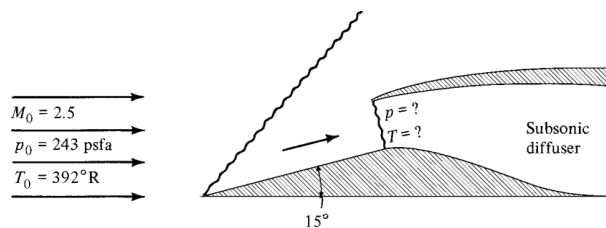

Figure P7.13
7.13 Pictured in Figure P7.13 is the air inlet to a jet aircraft. The plane is operating at 50,000 ft, where the the pressure is 243 psfa and the temperature is 392 °R. Assume that the flight speed is $M_0 = 2.5$.